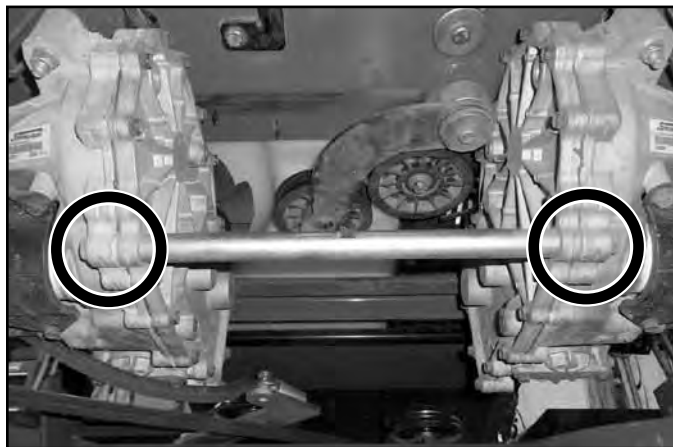

Fig. 080
11. Remove the (2) bolts that secure hydro center support. Remove support from the unit (Fig. 080).